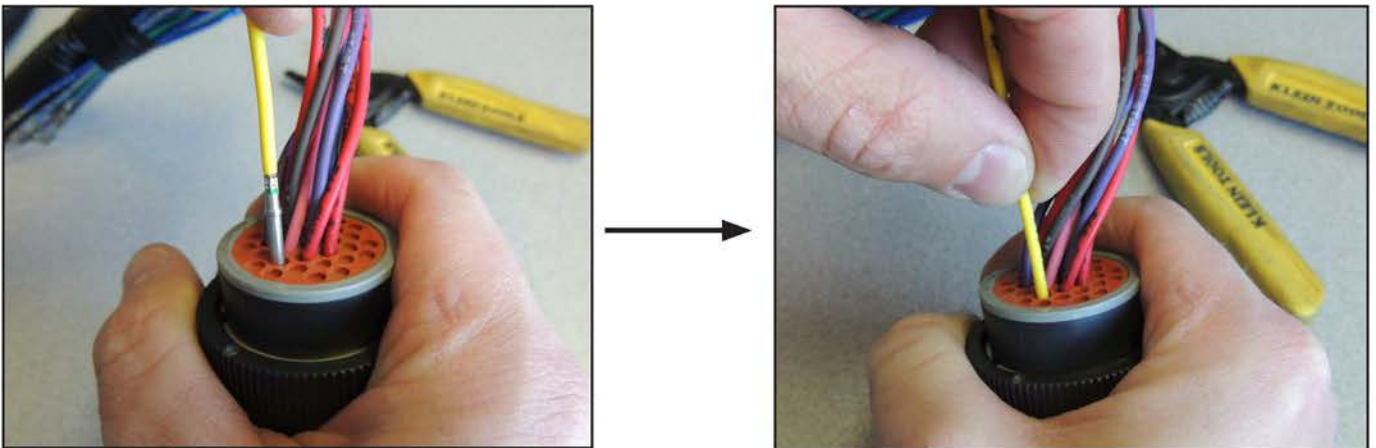

Figure 7: Insert the wire into the correct pin out on the new control. Push in until it clicks in place.
11. Insert the pin into the correct pin hole on the new Deutsch connector (Figure 7). Push the pin in until it clicks into place and cannot back out.